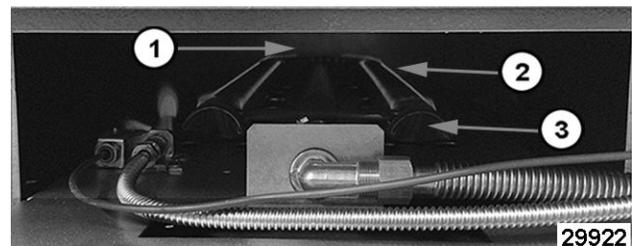

Fig. 84
4. Observe burner flame. The flame should be approximately 1/8" and stable on each port as shown in Fig. 84.
By-Pass Flame shown in Fig. 84